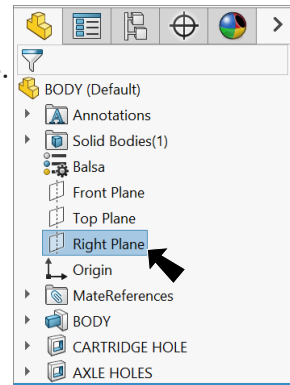

Fig. 24
Step 1. Click **Right Plane**  in the Feature Manager to select Plane, **Fig. 24.**